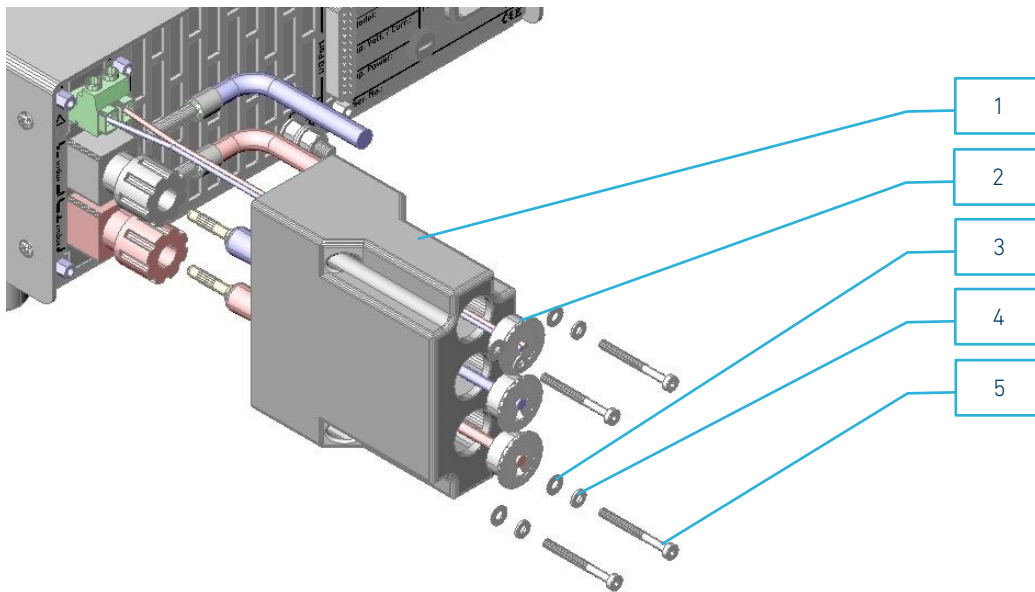

Figure 2.14: components and assembly of the SAB-HES-2PK/SB safety cover
The following **numbers** refer to Figure 2.14.
2. Connect the load cables to the load input as shown in Figure 2.14. You can use 4 mm banana plugs or side-mounted, screwed, stripped cables with ferrules, or both.
4. Insert the loose ends of the plugged load cables through the corresponding openings in the housing **1** and then through the cable bushings **3**, as shown in Figure 2.14.